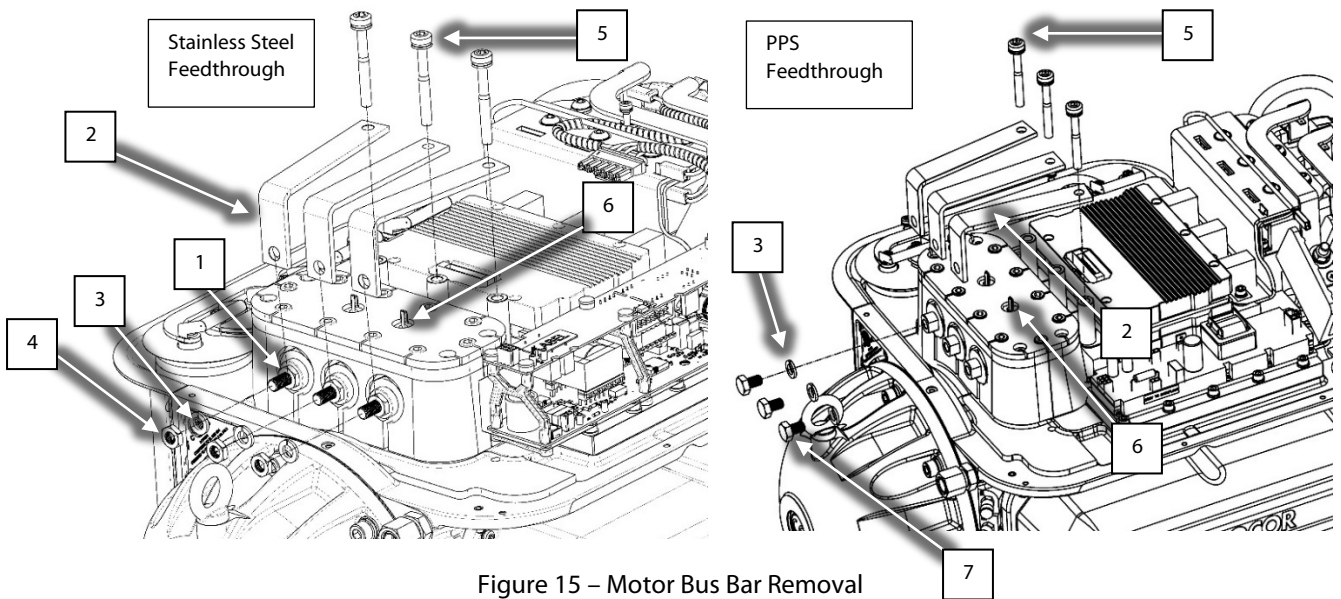

Figure 15 – Motor Bus Bar Removal
25. Disconnect the two (2) connectors from the Thermistor Sensor Feedthroughs. Refer to Figure 15 (Motor Bus Bar Removal).
26. To remove the Motor Bus Bar, remove the three (3) M8x70 fasteners attaching the Bus Bars to the Inverter. Then remove the three (3) nuts or screws (depending on the installed feedthrough) from the Motor Bus Bars to the High-Power Feedthroughs. Continue to Step 27 for Stainless Steel Feedthroughs. For PPS (Polyphenylene Sulfide) Feedthroughs, continue to Step 28.
29. Discard the Motor Bus Bars along with the associated fasteners. Refer to Figure 15 (Motor Bus Bar Removal) for examples of both versions.